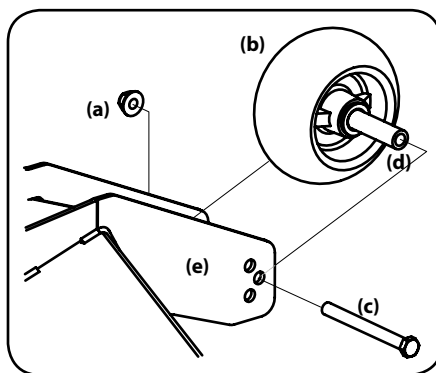

Figure 4-11
2. Remove the lock nut (a) securing one of the front gauge wheel (b) to the deck. Remove the front gauge wheel (b), hex screw (c) and spacer (d). See Figure 4-11.